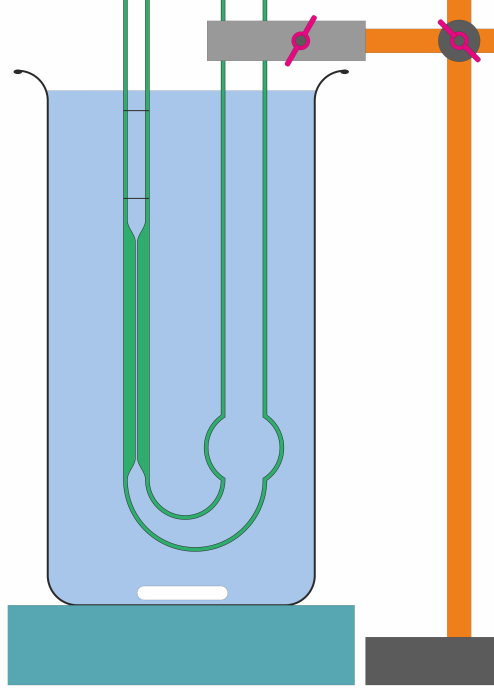

Fig. 3: Ostwald's capillary viscometer
Employing Ostwald's² capillary viscometer (fig. 3) the so-called kinematic viscosity ν is determined, which is connected to the dynamic viscosity η via the density ρ of the fluid:
- Rinse the capillary 2-3 times with the liquid to be measured. For this purpose, about 3 ml liquid is filled in the viscometer via the wide tube (on the right in fig. 3) and then the liquid is sucked into the capillary using a flip style pipette filler (Peleus-Ball) or a rubber bulb connected to the smaller (left, fig. 3) tube.